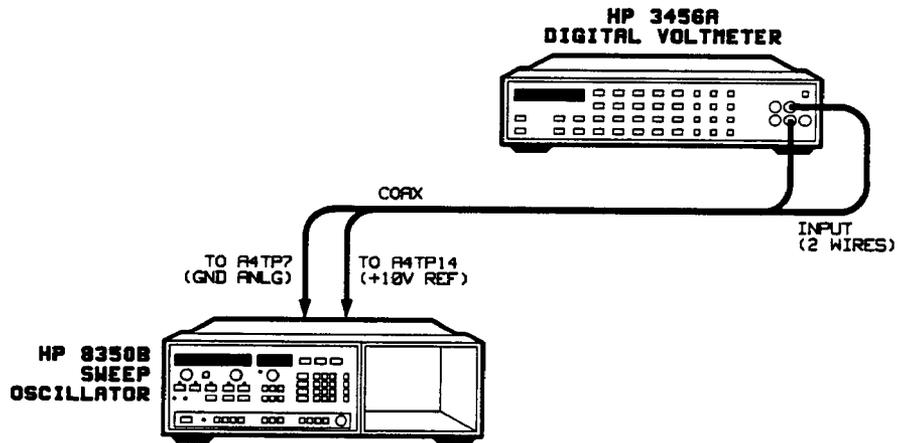

Figure 5-6. +10V REF DAC Power Supply Adjustment Setup
3. Position the sweep oscillator upright as shown in Figure 5-6 and remove the top cover and the A4/A5 shield cover.
4. Connect the DVM to A4TP14 (+10V REF) and A4TP7 (GND ANLG) as shown in Figure 5-6.